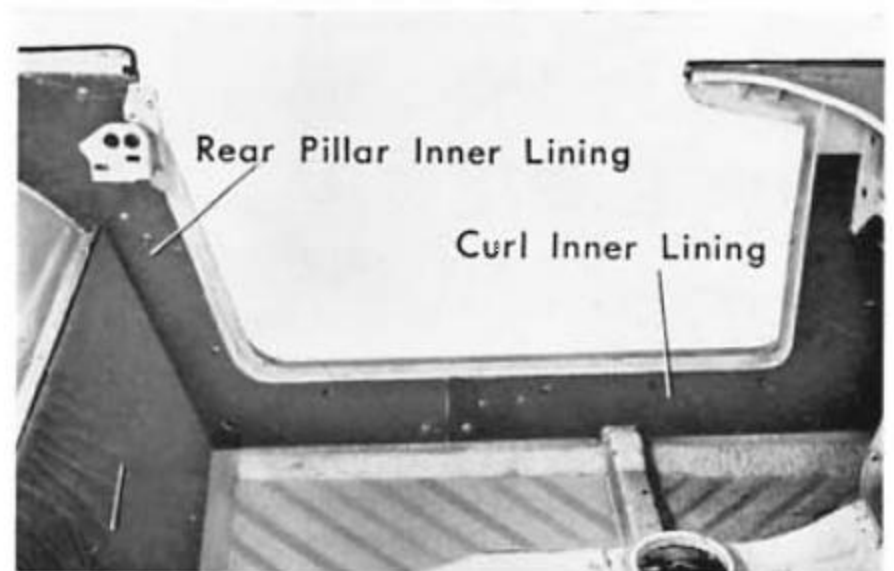

Fig. 17F-19
42. Separate the trunk compartment lid from the body by removing the nuts attaching the lid to the hinge. After removing the trunk lid from the body, detach the trunk lock striker, trunk lid stay, ornaments, and the trunk lid seal from the trunk lid (Fig. 17F-20, 21).